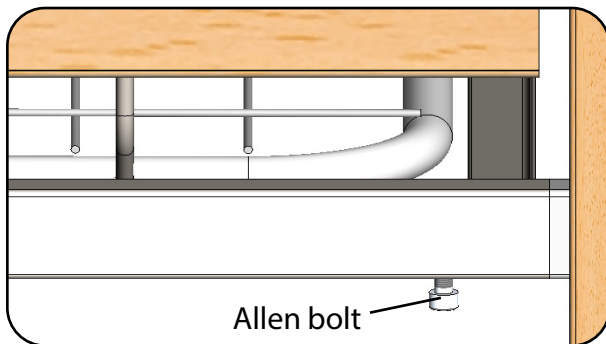

Fig. 6.6.05 – Allen bolts on foot end of bed surface frame
9. Undo the two Allen bolts at the foot end that connect the bed surface frame to the stand part (Fig. 6.6.05).